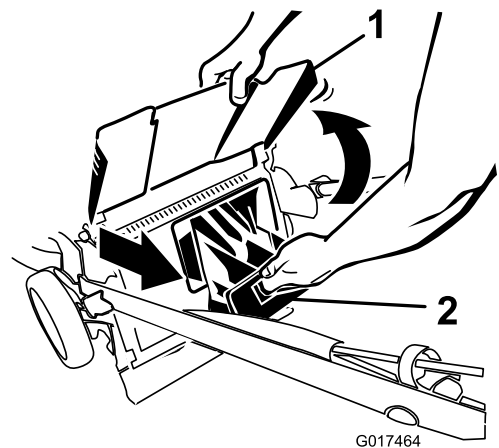

Figure 24
2. Raise and hold up the discharge deflector (Figure 24).
3. Pull out the rear discharge plug (Figure 24).